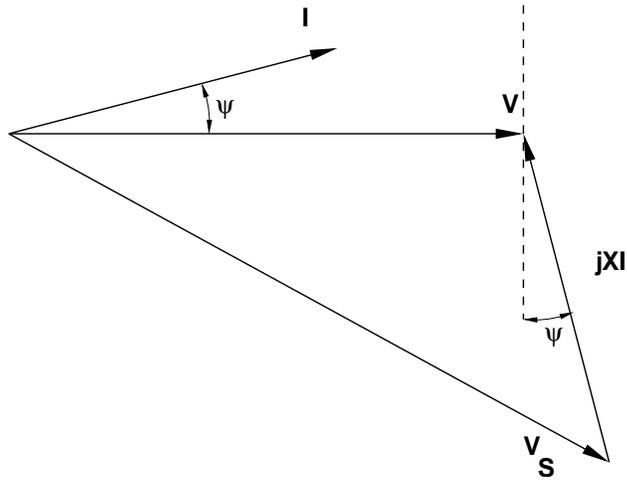

Figure 12: Phasor Diagram for Current Injection
**Problem 5** This thing is most conveniently viewed by using the phasor diagram shown in Figure 12.